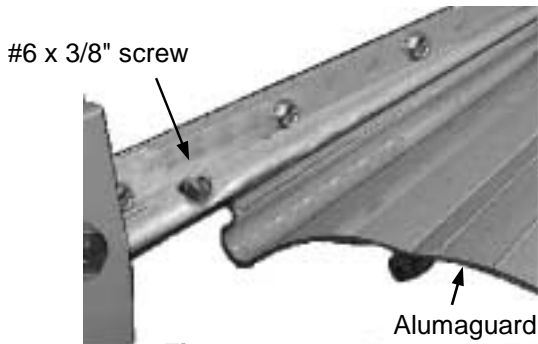

Figure 14
A. Secure the canopy fabric or Alumaguard using one, #6 x 3/8" hex head screw at the front and back end of the awning (**fig 14**). For vinyl (non alumaguard) awnings place screws through awning rail, polyrod and canopy approximately 1" in from each end of the fabric. For alumaguard place screws just outside the edge of the alumaguard to prevent it from shifting.